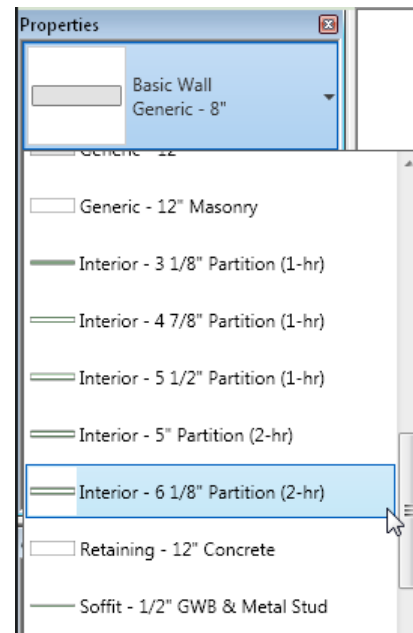

Figure 3-68 Selecting the interior wall type from the **Properties** palette
- Invoke the **Wall: Architectural** tool and select the required wall type, refer to Figure 3-68.
1. Select the required option from the **Type Selector** drop-down list in the **Properties** palette, as shown in Figure 3-68.